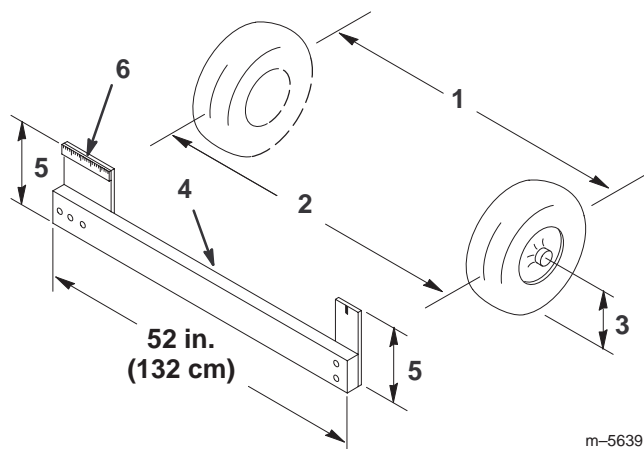

Figure 27
2. Measure the distance between both of the front tires at the axle height at both the front and rear of the front tires (Fig. 27). A fixture or alignment gauge is needed for the rear measurement of the front tires at axle height. Use the same fixture or alignment gauge to accurately measure the front of the front tires at axle height (Fig. 27).